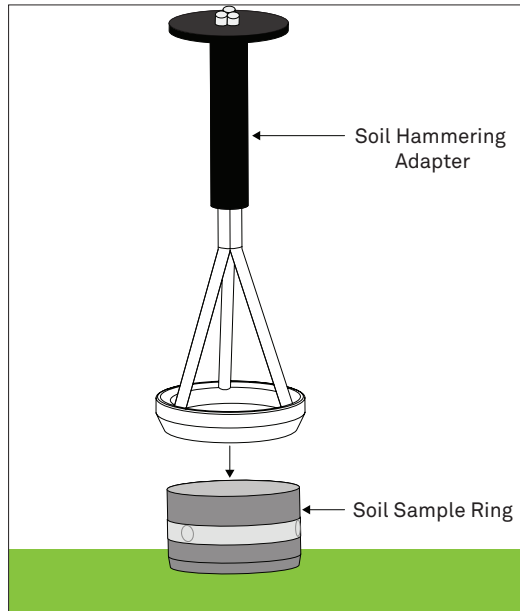

Figure 6 METER soil hammering adapter placement
5. Place the METER hammering adapter (available for 250 mL) on the sample ring (Figure 6).